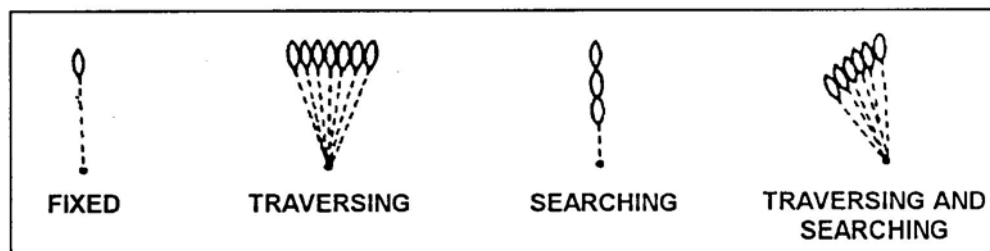

Figure 7. Classes of fire with respect to the weapon.
4. Apply correct engagement technique based on target types (Figure 7).